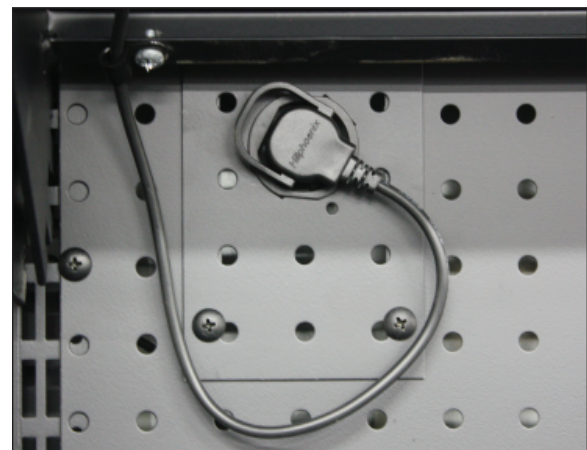

Fig. 9 LED light power cord
1. Unplug the luminaire (Fig. 9).